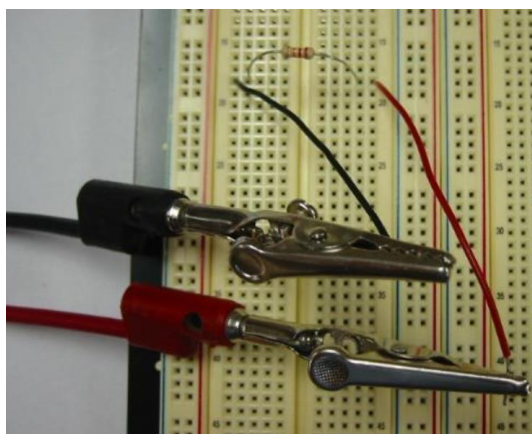

Figure 8. Alligator clip terminated test probes.
- When using a multimeter to perform circuit measurements, you should connect the alligator clips (located at the end of the multimeter test leads) to short connector wires, as shown in Figure 8. Make sure that the connection at the alligator clip is tight. Then, insert the connector wire's other end in the appropriate hole.